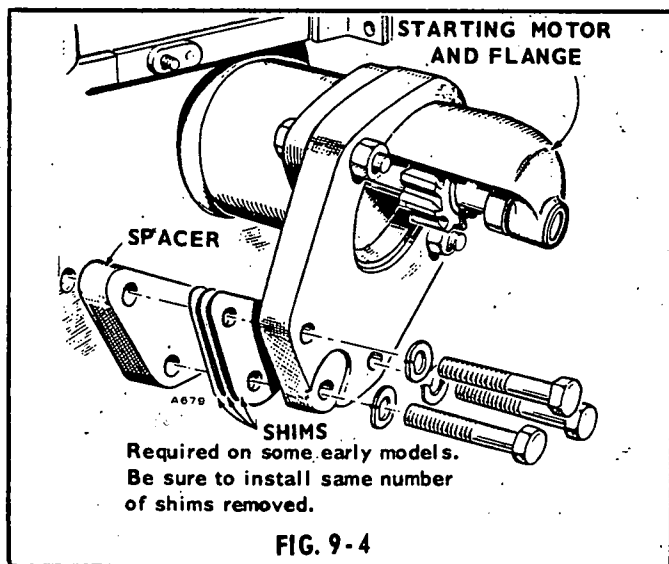

FIG. 9-4
11. If it is necessary to remove the starting motor flange (Fig. 9-4), watch for shims between the flange and crankcase surface. Save any shims, they must be reinstalled to position the starter correctly.
Important: On units built prior to serial #679677, it was necessary to maintain the gap between ring gear and starter pinion in the relaxed position at less than 1/8" to insure starter engagement. When installing these motors, check this gap. If it is too great, a shim kit is available to reduce it (Fig. 9-4).